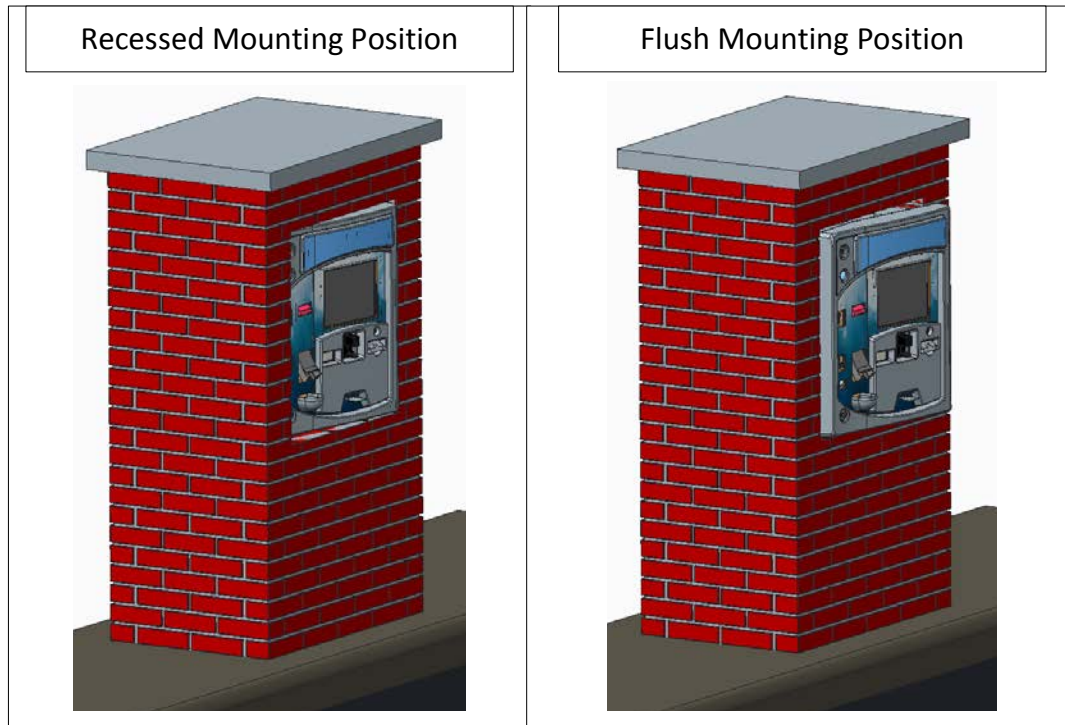
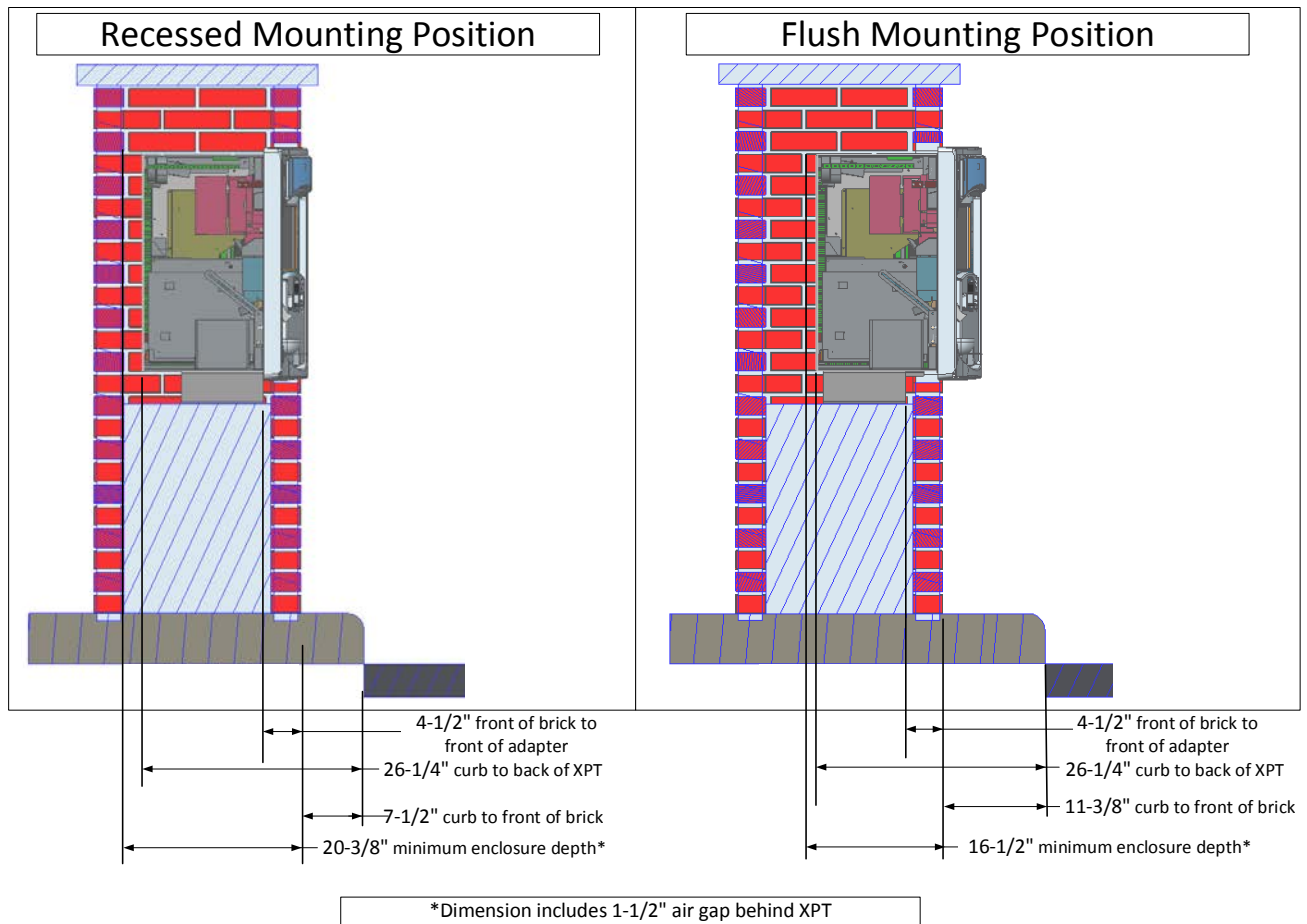
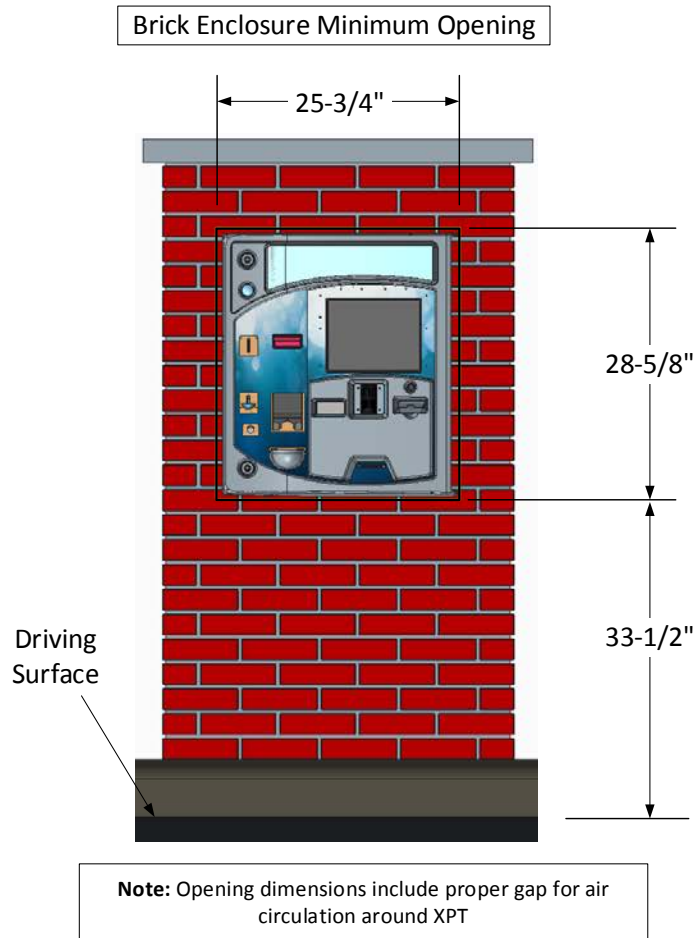

Figure 13. Brick-In Mounting Positions
Figure 14. Mounting Position vs. Enclosure Placement and Size
Figure 16. Brick Enclosure Minimum Opening
In addition to two mounting options, there are two available mounting positions – recessed and flush mount. See Figure 13 for an example of each. **It is important to determine which mounting position will be used, as this will determine how far back the brick enclosure should be built from the edge of the curb** (as shown in Figure 14).
- Depending on whether the XPT will be mounted in recessed or flush mount position, the brick enclosures should be sized and positioned relative to the curb as shown in Figure 14. The recessed mounting position will require the brick enclosure be made deeper than if using the flush mounting position.
- After the brick enclosure depth has been calculated according to Figure 14, the enclosure should be sized to allow a minimum 25-3/4" wide by 28-5/8" high opening for the XPT, as shown in Figure 16. These dimensions allow the correct minimum gap around all sides of the XPT for proper air flow.